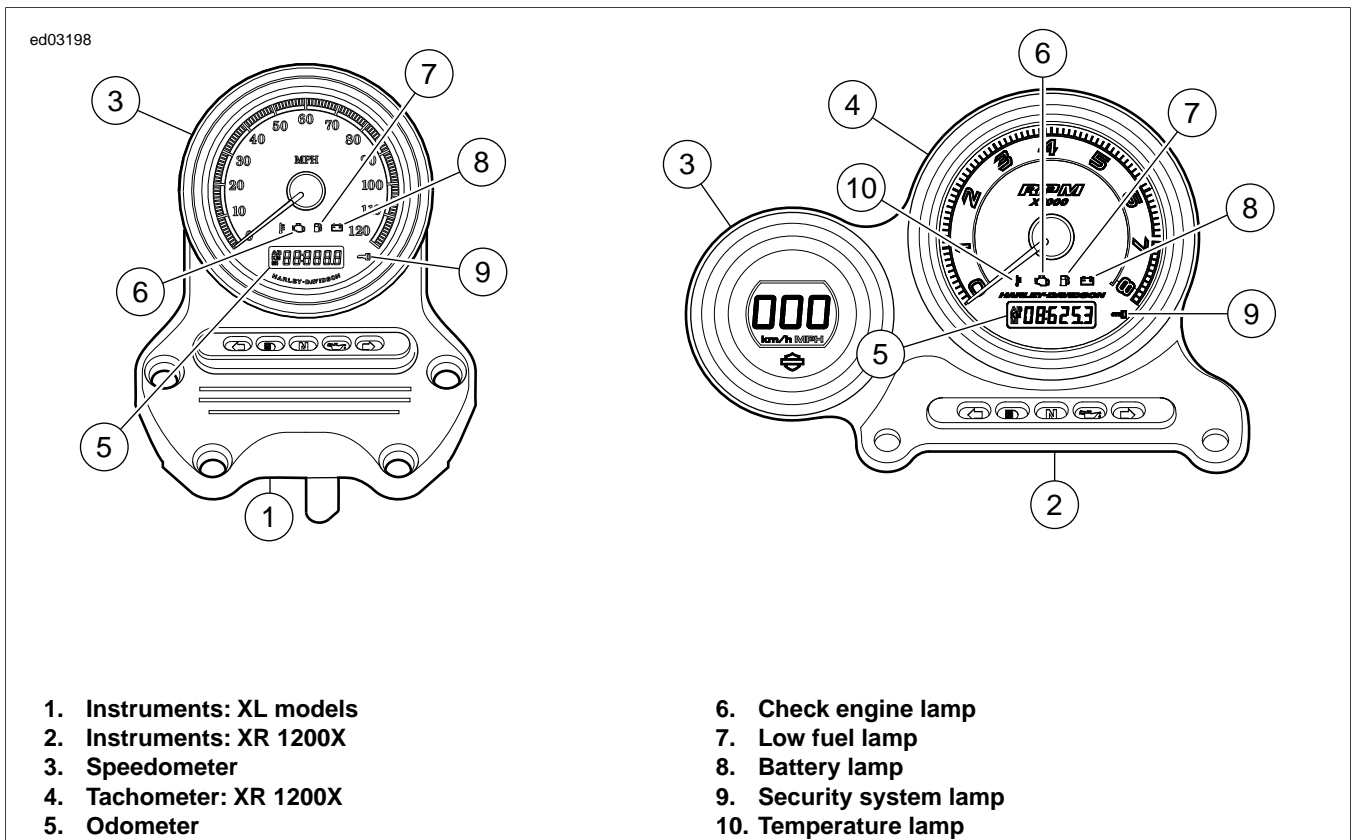

Figure 4-7. Instruments
See Figure 4-7. The battery, check engine, security and low fuel indicators are located in the speedometer (XL) or tachometer (XR). The other indicators are located separately from the speedometer or tachometer.